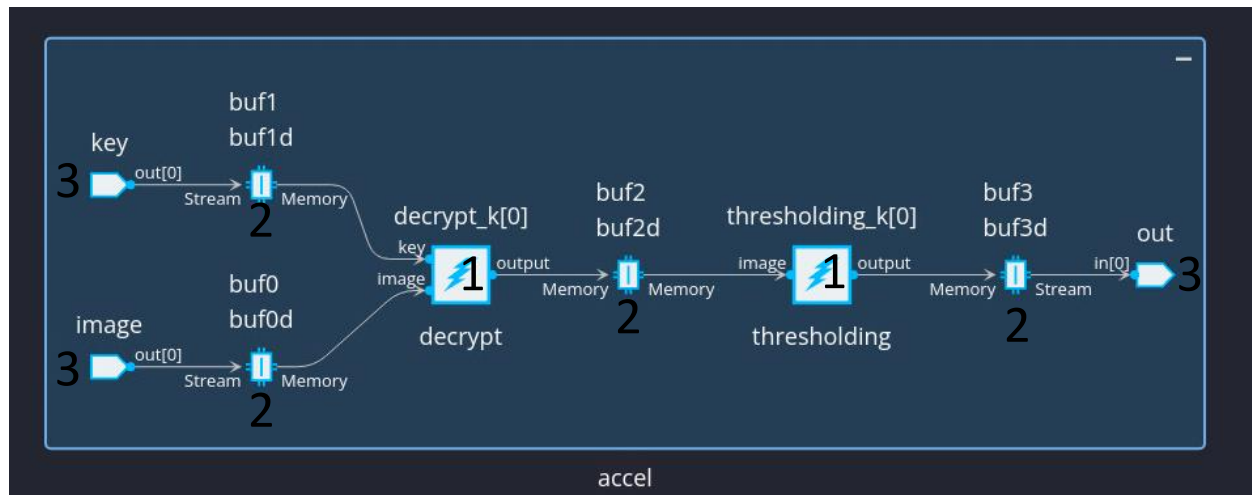

Figure 20: Graph view showing AIE kernel connectivity
Click **Graph** to view a diagram of how your AIE kernels connect. Figure 20 shows an example connectivity graph. The square in the center (labeled (1)) is an AIE kernel. Because this is a **logical** graph, it does not tell you the physical tile location. You should see two inputs entering the graph and one output leaving it. The **stream memory** block (labeled (2)) represents buffers allocated in AI Engine local memory. For AIE-ML, each tile has 64 KB of local memory. The endpoints labeled (3) are **GMIO** connections, which move data between global DDR memory and the AIE array through the interface tile.
The code above shows a kernel that **decrypts** the image by performing a bitwise **XOR** between the **image** buffer and the **key** buffer. These buffers live in AI Engine memory shown as label 2 in Figure 20: the kernel reads from the two input buffers and writes the decrypted result to the **output** buffer. The directive **chess_prepare_for_pipelining** tells the compiler to pipeline the loop so a new iteration can start every cycle (when possible), which improves throughput. This code snippet shows only the compute kernel. Next, you will look at the **connectivity graph**, which describes how data moves between memory, kernels, and output.